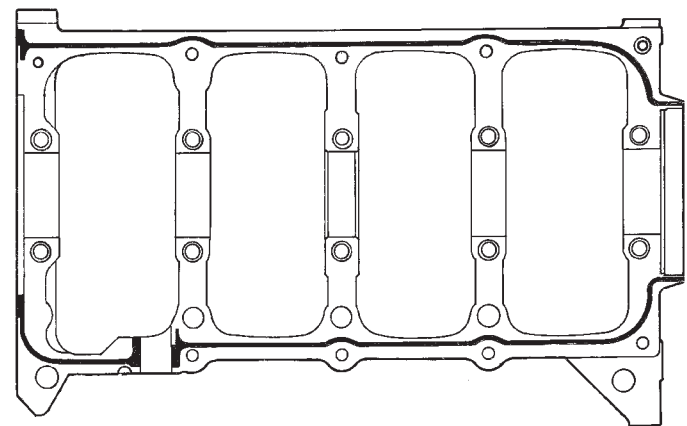

Fig. 13 Main Bearing Caps/Bedplate Sealing
(4) Apply 1.5 to 2.0 mm (0.059 to 0.078 in.) bead of anaerobic sealer Mopar Torque Cure Gasket Maker to cylinder block as shown in (Fig. 13).